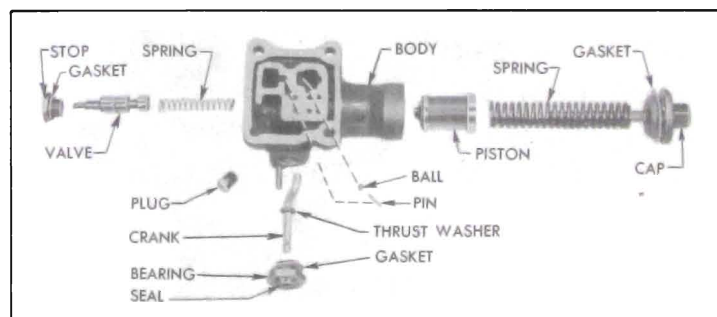

Figure 5-70—High Accumulator—Disassembled
2. Remove the pipe plug, cap, gasket, spring (2 in low) and piston from accumulator body. Keep parts separated so that same parts will be reinstalled in same body. See figure 5-70.
3. *On high accumulator only*, remove clamp bolt, lever, bearing with seal, gasket, thrust washer and control valve crank from accumulator body, then remove valve stop with gasket, control valve and spring. See figure 5-70.
11. *On high accumulator only,* install spring, control valve and stop, then install crank with thrust washer, bearing with new gasket and seal (grooved side inward), operating lever and clamp bolt. See figure 5-70.
13. Install pipe plugs in both accumulator bodies and install check ball and retaining pin in the high accumulator body. See figure 5-70.